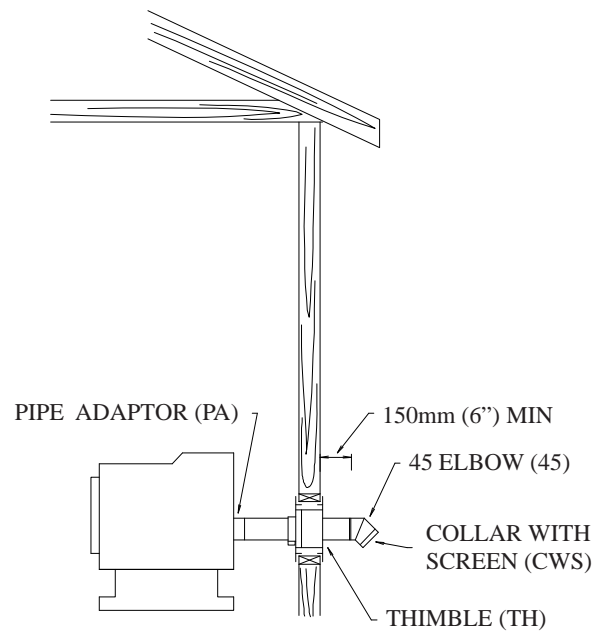
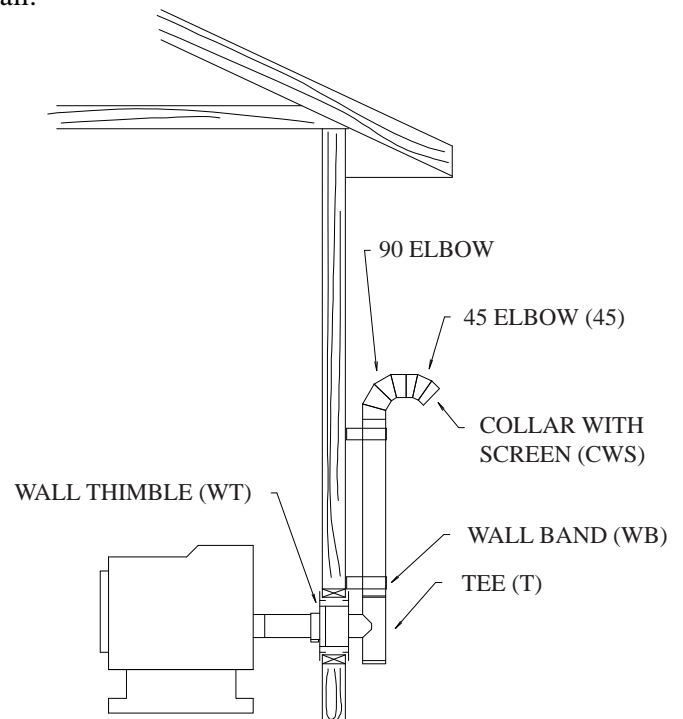

FIGURE 4
FIGURE 7
2.1 General VENT layout is shown in Figures 4 and 6. In selecting the location for the appliance and the vent, it is necessary to take into account the rules of ULC/ORD-441 and NFPA 211.
2.11 There are two alternative vent terminations. A 45 degree ELBOW may be used together with a COLLAR WITH SCREEN as shown in Figure 4, or as shown in section 4 and Figure 7.
4.3 Attach a 45 DEGREE ELBOW to the 90 DEGREE ELBOW, aiming the second elbow down toward the ground. Terminate the vent with a COLLAR WITH SCREEN fastened to the 45 DEGREE ELBOW (see Figure 7).